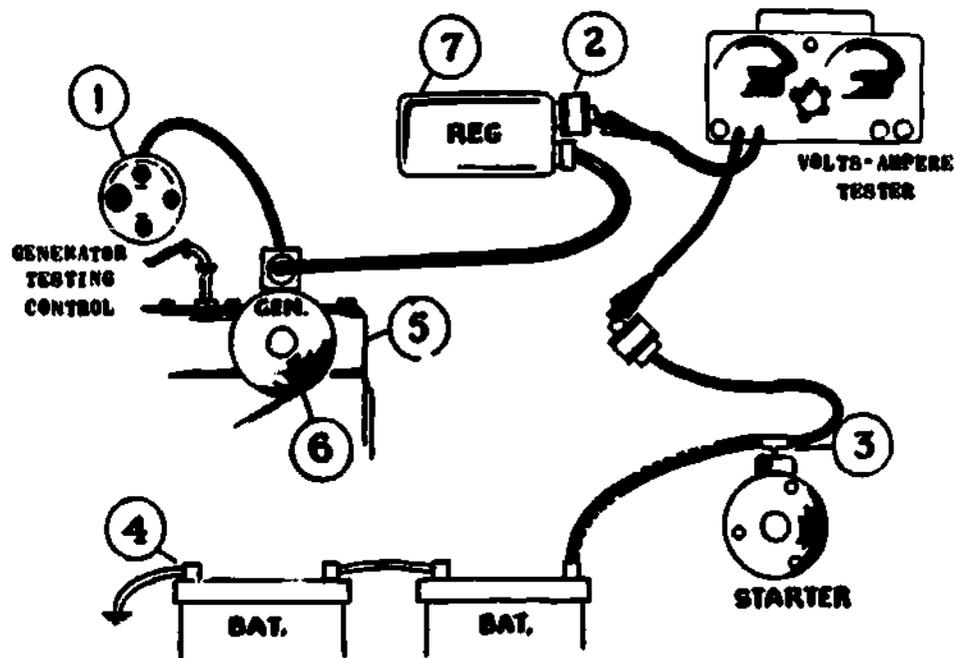

Fig 1-17. Locating charging system resistance.
**3. Locating circuit resistance (fig 1-17).** The procedures for locating charging circuit resistance are used only if the insulated circuit readings indicate there is excessive resistance. If the previous readings are within specified limits, there is no need to perform these tests.
Step 2. Use the voltmeter leads connected as outlined below and illustrated in figure 1-17 to check the resistance in the various parts of the circuit.